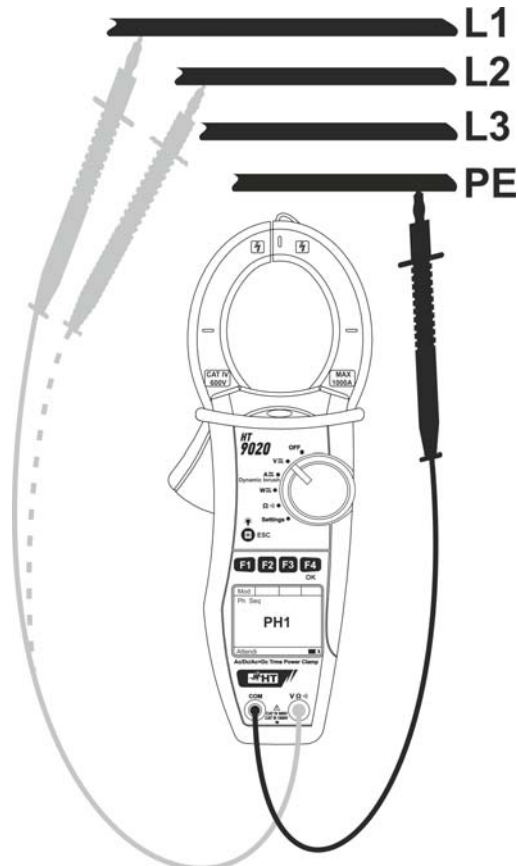

Fig. 7: Verification of phase sequence
4. Connect red cable to input lead **VΩ** and black cable to input lead **COM** then position the leads respectively to the L1 phase and the ground reference PE of the circuit under test (see Fig. 7).
7. The message "**PH2**" is shown and the instrument waits for the detection of L2 phase. Connect the test lead to phase L2 cable (see Fig. 7)